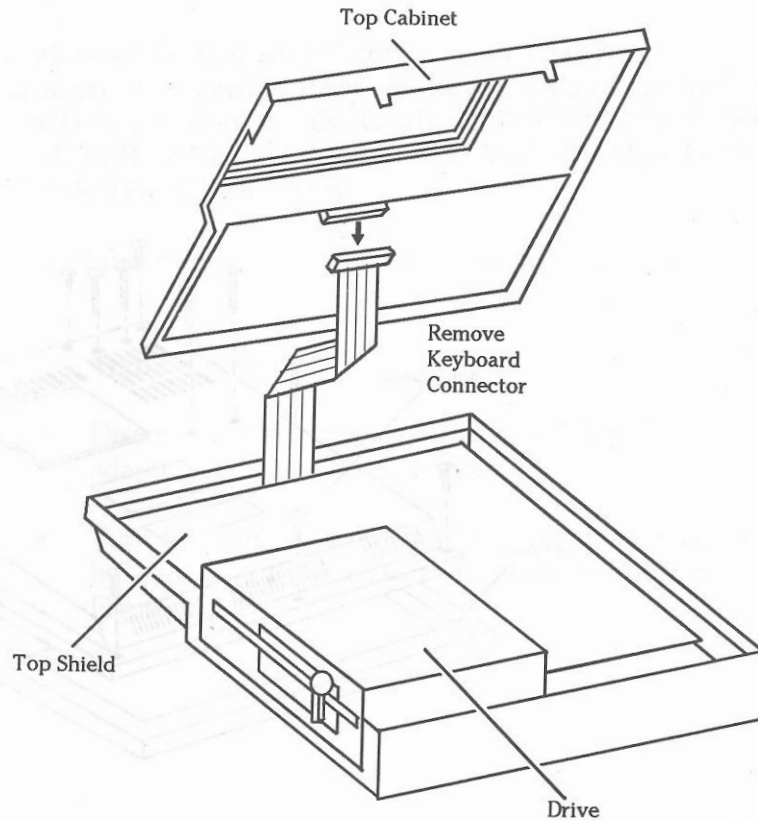

Figure B-2 Removing the keyboard
- Turn the computer right-side-up and remove the keyboard as in Figure B-2.